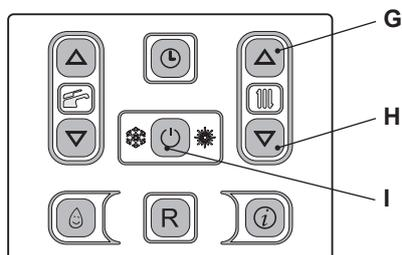
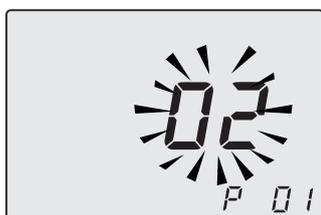
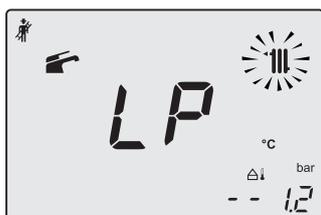
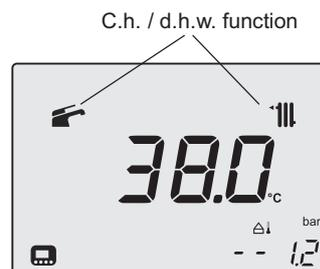

Figure 11.5
Figure 11.6
Figure 11.7
Figure 11.11
- 15 To enter in the parameters setting mode press contemporary the 3 keys (G - H - I Figure 11.5) for 10 second until the display shows Figure 11.6.
- 16 Press keys G and H (Figure 11.5) at the same time until the display shows the letters **LP** that alternate with the heating water temperature value (e.g. 45), indicating the activation of the "chimney sweep function" at minimum output (Figure 11.7).
- 29 Press keys G - H - I (Figure 11.5) at the same time again to exit the "chimney sweep mode" and return to the previously set boiler status (Figure 11.11)